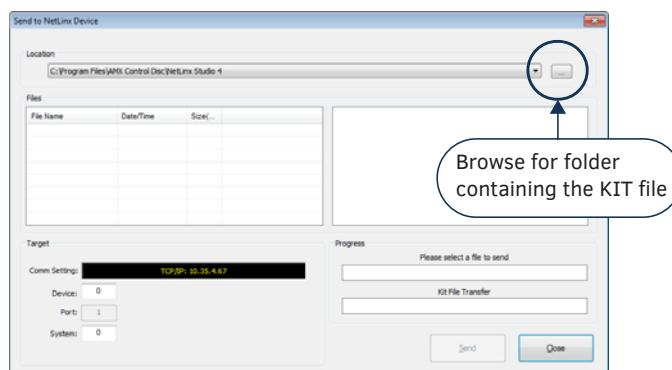

FIG. 101 Send To NetLinx Device dialog (NetLinx Studio)
2. In NetLinx Studio, choose **Tools > Firmware Transfers > Send to NetLinx Device** to open the Send to NetLinx Device dialog (FIG. 101).